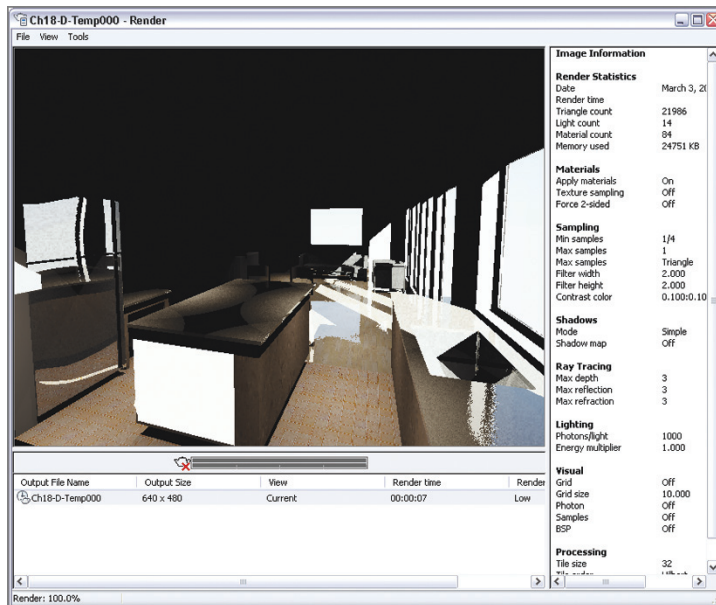

FIGURE 18.16 First test render using Low quality preset
3. Open the Render Presets drop-down menu in the Render panel and select Low. Click the teapot icon to initiate the rendering process. Figure 18.16 shows the resulting low-quality rendering that appears after a few moments in the Render dialog box.